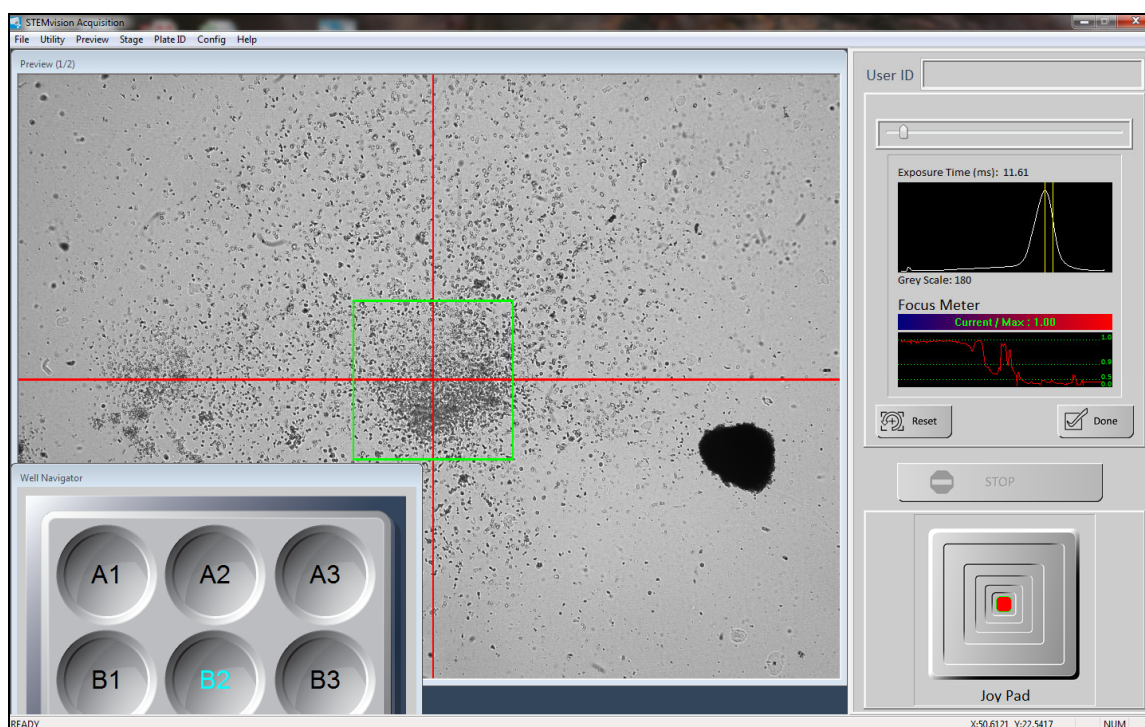

Figure 8. Setting the Focus in the “Set Focus & Illumination” Dialog Box of the STEMvision™ Acquisition Application
- i. Use the Joy Pad to find a location in the well so that a dispersed (e.g. CFU-GM) colony with individual cells around its periphery is placed inside the focus area (i.e. green box in the Preview Window) as shown in Figure 8. To set the focus for mouse erythroid-specific media, find a location in a well with a dispersed erythroid colony.